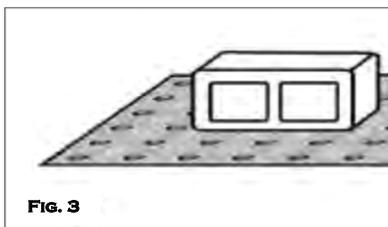

FIG. 3
**NOTE: Installing tiles after moisture is gone from the top will help control floating.** If needed, weight may be added. (Fig. 3)